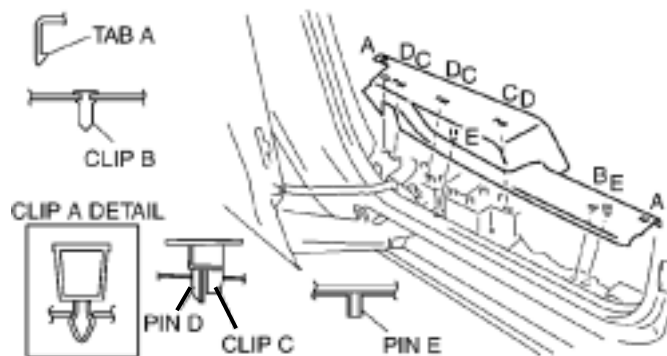

FIGURE 19
- 1.) PULL THE REAR SCUFF PLATE UPWARD WHILE DETACHING TABS A, DETACH CLIPS B AND C, AND PINS D AND E FROM THE BODY, AND THEN REMOVE THE REAR SCUFF PLATE. (SEE FIGURE 19)